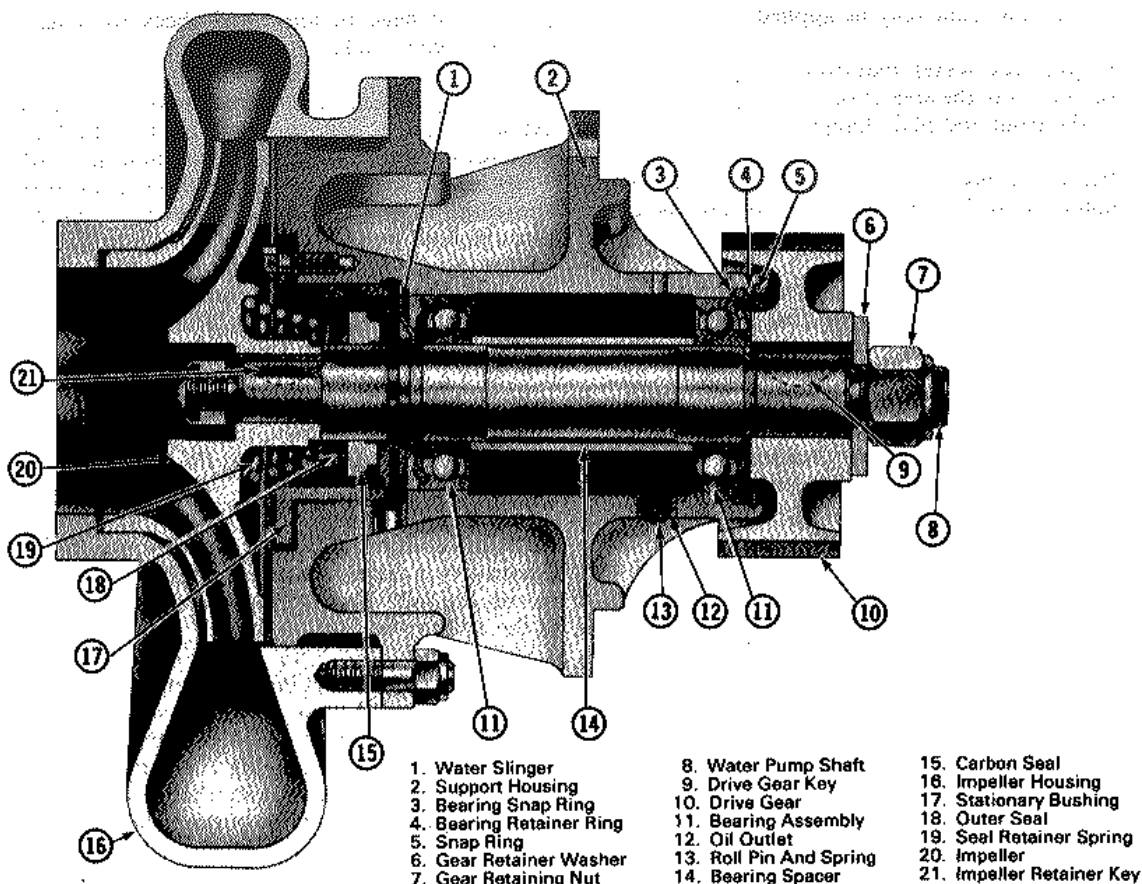

Fig. 10-4 - Water Pump, Cross-Section
3. Remove snap ring and bearing retainer ring, Fig. 10-4.
9. Remove loose spring and seal assembly from support housing, Fig. 10-4.
3. Assemble water slinger, outer bearing, bearing spacer, and inner bearing to the pump shaft, making certain that inner (gear end) bearing with snap ring is positioned correctly with the snap ring to the outside. These parts are assembled, Fig. 10-4, first with the slinger next
11. Install the new seal assembly, Fig. 10-4. Check carbon face for cleanliness. Apply carbon inner seal with the narrow end contacting the stationary bushing. Apply rubber outer seal to shell, and apply to carbon seal so ears of shell fit into the slots in the carbon seal. One end of the drive spring fits into the shell while the other end must be fitted into a slot at the bottom of the impeller when it is assembled.